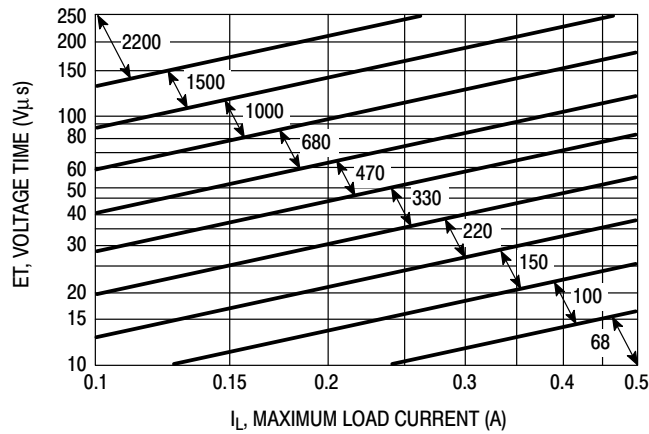

Figure 23. LM2574-ADJ
4. Inductor Selection (L₁) A. Use the following formula to calculate the inductor Volt x microsecond [V x μs] constant: $E \times T = (V_{in} - V_{out}) \times \frac{V_{out}}{V_{in}} \times \frac{10^6}{f_{[Hz]}} [V \times \mu s]$ B. Match the calculated E x T value with the corresponding number on the vertical axis of the Inductor Value Selection Guide shown in Figure 23. This E x T constant is a measure of the energy handling capability of an inductor and is dependent upon the type of core, the core area, the number of turns, and the duty cycle. C. Next step is to identify the inductance region intersected by the E x T value and the maximum load current value on the horizontal axis shown in Figure 27. D. From the inductor code, identify the inductor value. Then select an appropriate inductor from Table 2. The inductor chosen must be rated for a switching frequency of 52 kHz and for a current rating of 1.15 x I_{Load}. The inductor current rating can also be determined by calculating the inductor peak current: $I_{p(max)} = I_{Load(max)} + \frac{(V_{in} - V_{out})t_{on}}{2L}$ where t_{on} is the "on" time of the power switch and $t_{on} = \frac{V_{out}}{V_{in}} \times \frac{1.0}{f_{osc}}$ For additional information about the inductor, see the inductor section in the "External Components" section of this data sheet.	4. Inductor Selection (L₁) A. Calculate E x T [V x μs] constant : $E \times T = (40 - 24) \times \frac{24}{40} \times \frac{1000}{52} = 105 [V \times \mu s]$ B. E x T = 185 [V x μs] C. I_{Load(max)} = 0.4 A Inductance Region = 1000 D. Proper inductor value = 1000 μH Choose the inductor from Table 2.